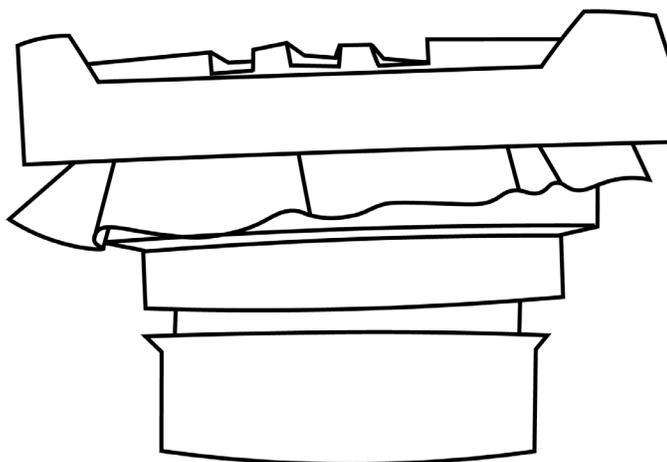

Figure 21 Flip the adapter and place on top of sampling ring
5. Flip the adapter and place it on top of the soil sampling ring (Figure 21).